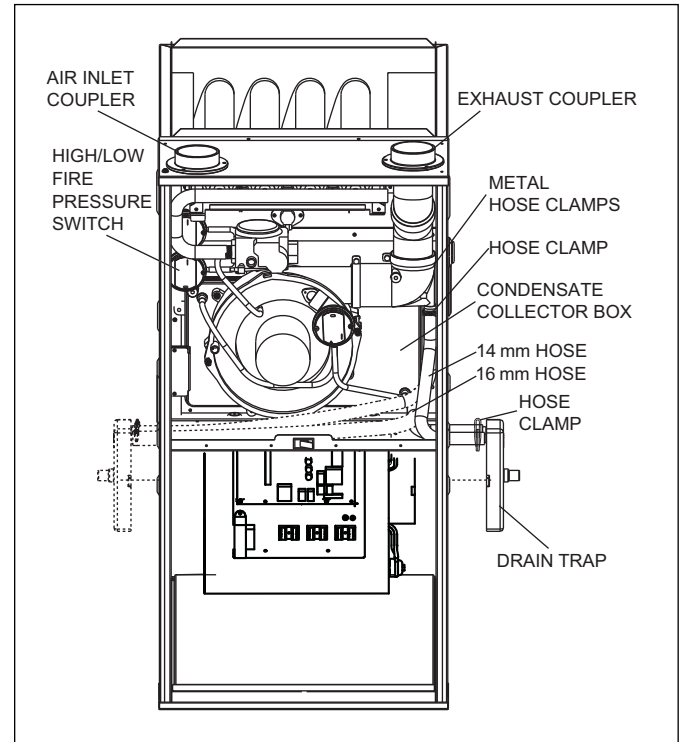

Figure 14 Upflow Installation, Top Venting
#### Top venting (see Fig. 14)
5. Connect  $\Phi 16$  mm hose between condensate collector box and drain trap and connect  $\Phi 14$  mm hose between inducer drain port and drain trap. (see Fig. 14).